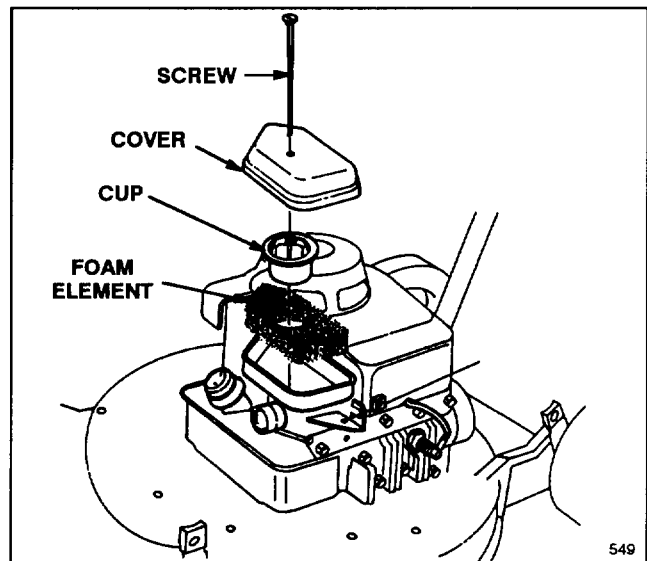

Figure 11
2. Remove screw from top of air cleaner. Lift off cover and clean cover thoroughly (Fig. 11).
3. Remove air cleaner cup from top of foam element (Fig. 11).
4. If foam element is dirty, remove it from air cleaner body (Fig. 11). Clean thoroughly.